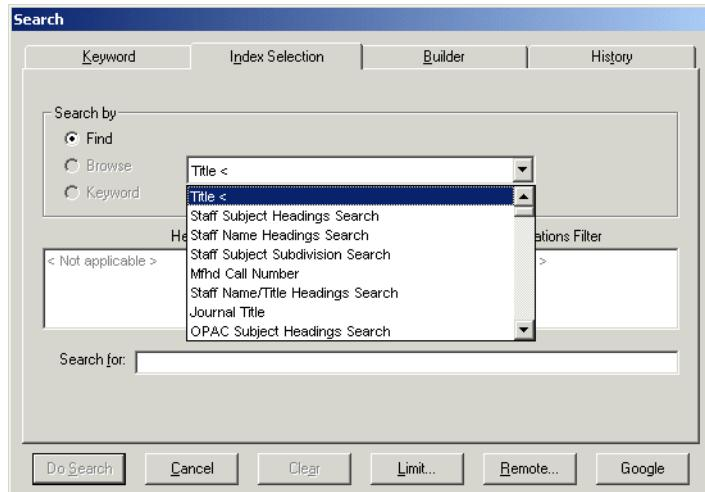

Figure 2-33. Type of search
2. Select the type of search wanted from the drop-down menu (see Figure 2-33).